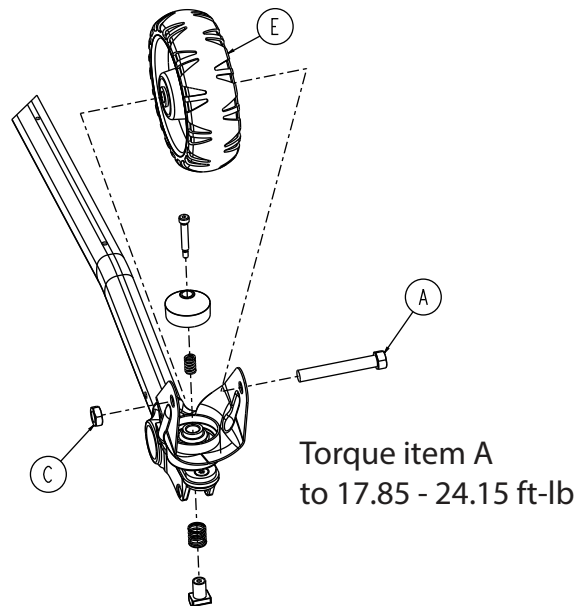

Figure 64 – Transport wheel components
4. Using a ratchet, 11/16" socket wrench, and 5/8" combination wrench, remove the hex head cap screw (A) and toplock hex thin nut (C) that secure the 6 inch molded wheel assembly (E) to the caster horn (Figure 64). Remove and discard the wheel. Save the screw and nut.